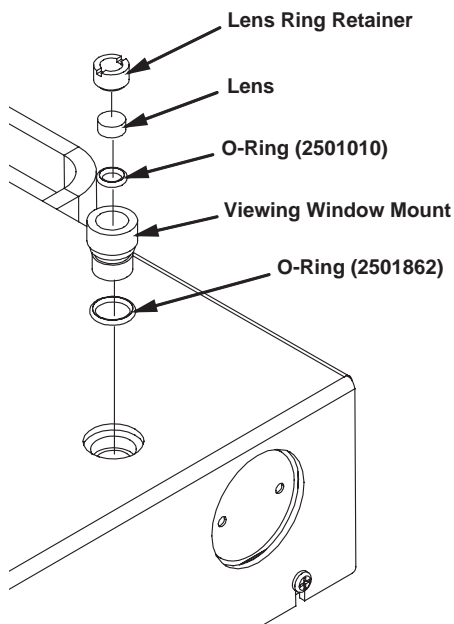

Figure 5-2
2. Using Figure 5-2 as a guide, unscrew the viewing window mount by hand and remove the lens ring retainer using a coin.